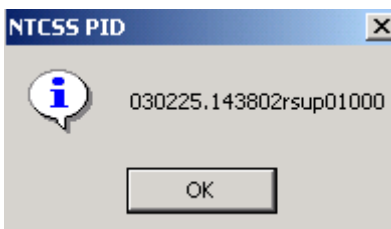

Figure B2
- Click on APPLY (select a printer; not shown if the control parameter update print option is out to “default”) and OK button then close window. (FIGURE B2)